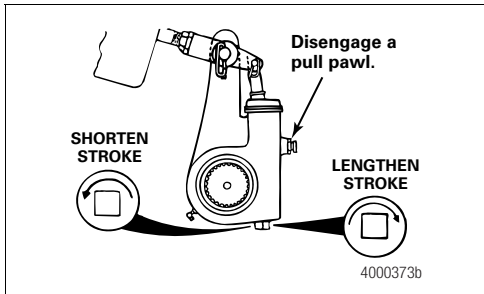

Figure 14
- If the free stroke measurement is not within specification: Turn the adjusting nut 1/8 turn in the direction shown in Figure 14 and check the free stroke again. Continue to measure and adjust the stroke until the measurement is within specification.